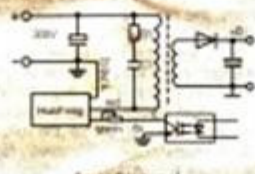

Figure 3: Usage of voltage-reduced switch power supply
9. For power supply to the voltage-reduced color TV where thick-film block (for example, STR6700N) is adopted, the principal voltage can be reduced tremendously after switch-off and can be then supplied to CPU's operating voltage through relevant circuits. Thus, when this module is applied under this condition, a 5 K adjustable resistance needs to be connected to the green wire in the series manner and this resistance should be regulated to ensure that output principal voltage can range from 50V to 70V when the machine is switched off (referring to figure 3). The absorption circuit in figure 3 is relatively applicable 5V voltage-reduced machines, and among them, the resistance R1 is 33-56Ω/3W-5W, the capacitance C1 is 330p-1000P/1KV-2KV.